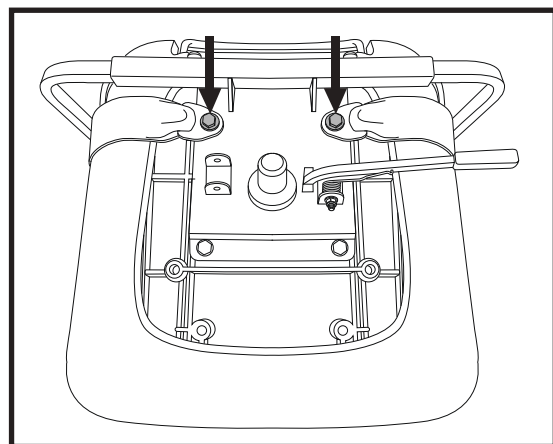

Figure 33. Positioning Belt Bolts
2. Place the seat upside down so that you can see the bottom of the seat base. See figure 33.